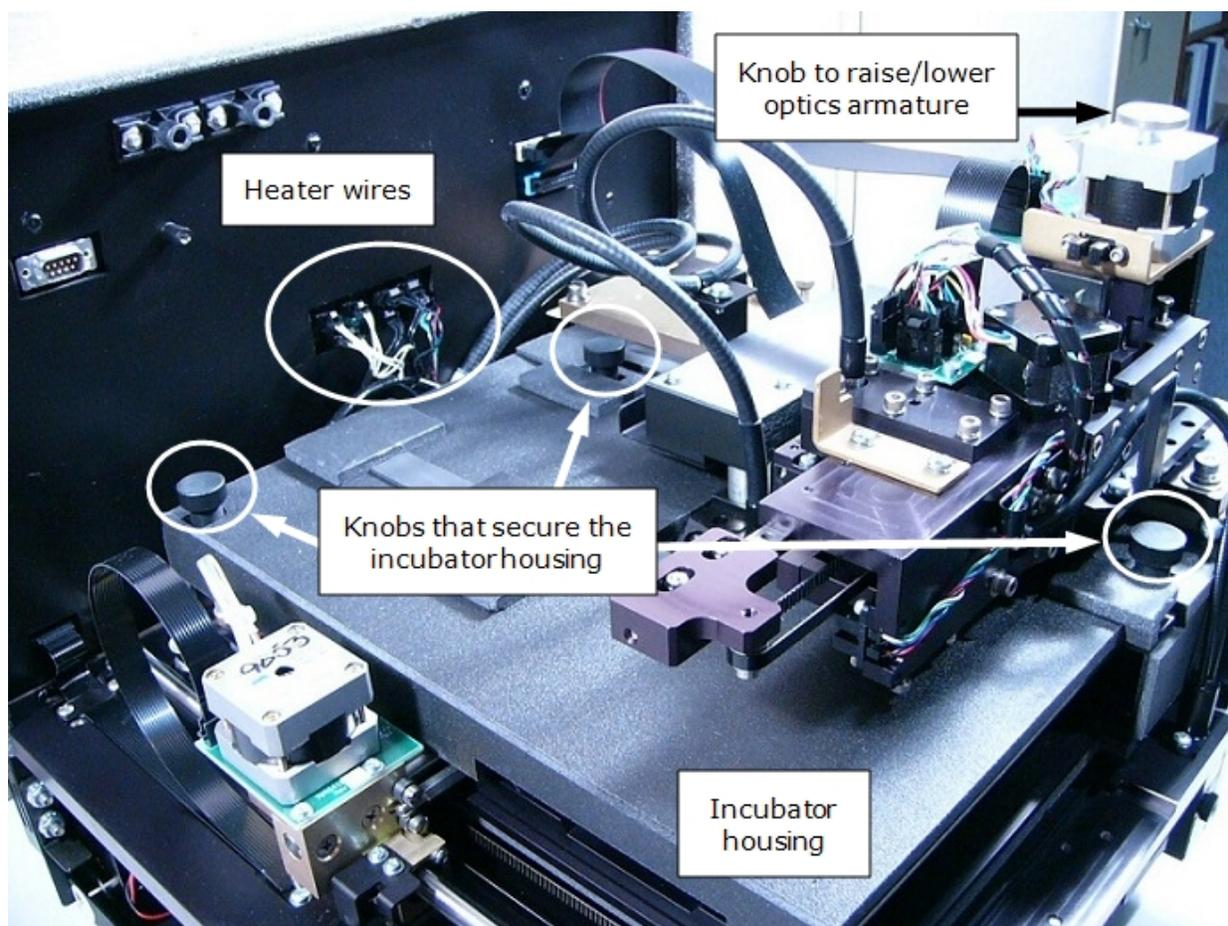

Figure 5-7: Locating the components described in this section
3. Refer to Figure 5-7 and remove the three knobs that secure the incubator housing.
- Secure the incubator housing with the three knobs (Figure 5-7).